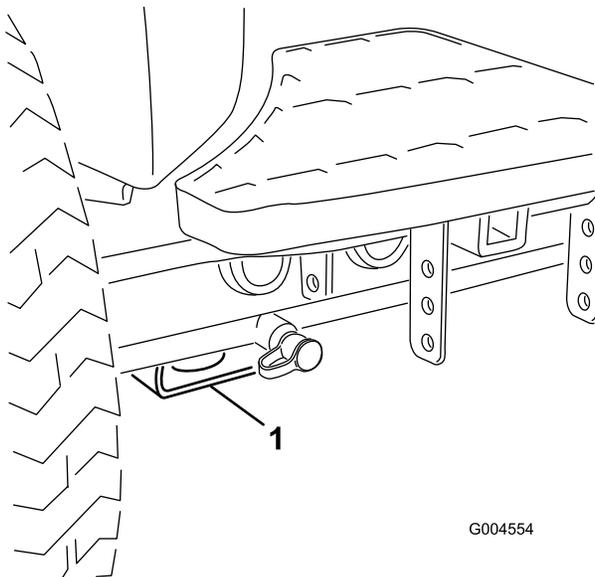

Figure 19
- Front—rectangular pad, under the axle tube, inside each front tire (Figure 19).